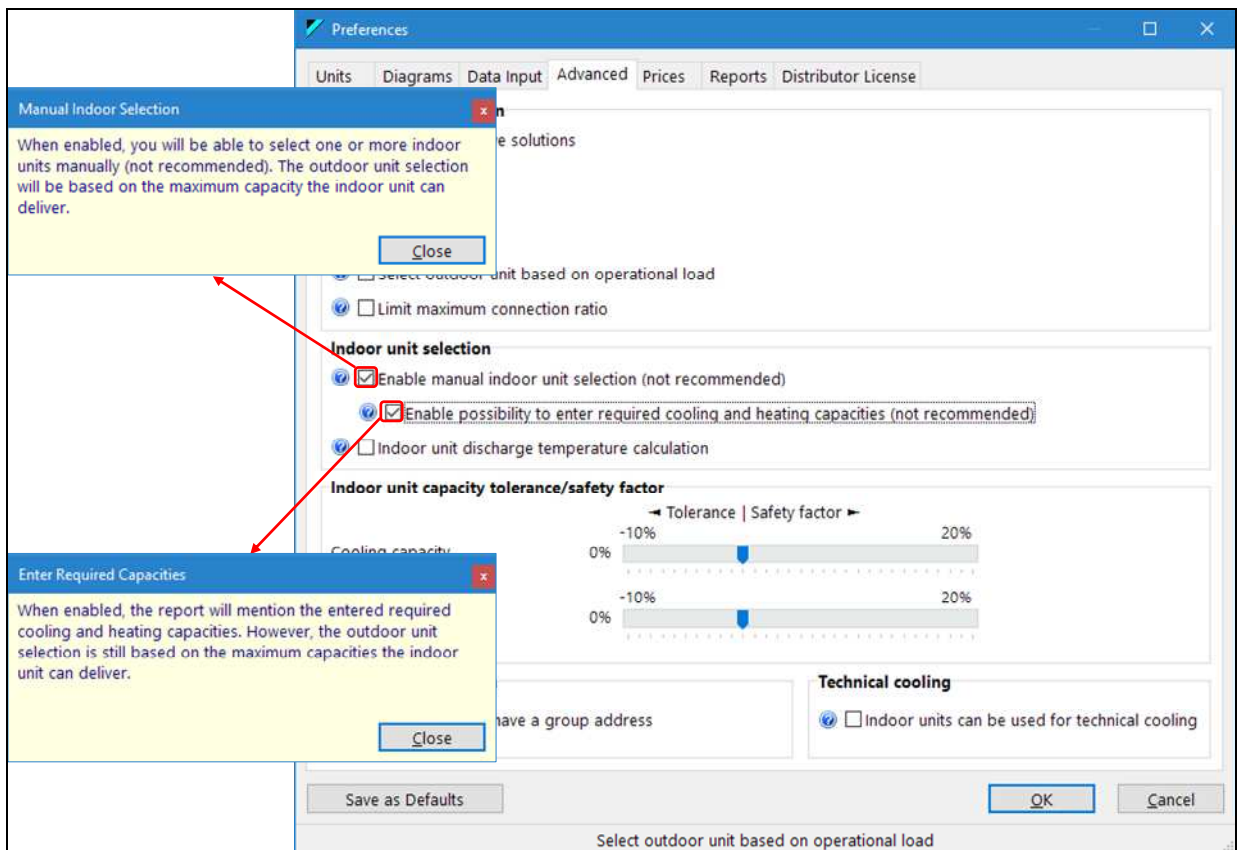

Figure 115: Allowing the manual selections
*A plug and play AHU selection is not possible without having set manual settings in the preferences window*, as explained in section 9.1.1 and shown in Figure 115.
Figure 115 shows the two checkmarks that you can set for manual selections. By default, these checkmarks are unchecked. Although not recommended to use a manual selection of indoor units, you have to check these settings for the selection of VKM devices, Outdoor Air Processing Units and Biddle Air Curtains.
- The window at the right is the simple one that appear when you only check the first of the two manual selection checkmarks in Figure 115. You just select an indoor unit from the list of available models. Suppose you want to replace the automatically calculated model FXFQ50A of indoor unit Ind1 by the same model, but now manually selected. As VRV\_Xpress has no clue about the required cooling and heating capacities now, it takes the **maximum available** capacities for that indoor unit.
- The window at the left appears when you check both manual selection checkmarks in Figure 115. As for the simple window, you also select an indoor unit from the list, but now you can also enter the **estimated** capacities for cooling and heating. Those capacities only **serve as a documentation and do not influence the selection**. In fact, VRV\_Xpress will equally use the maximum available capacities from the indoor units.